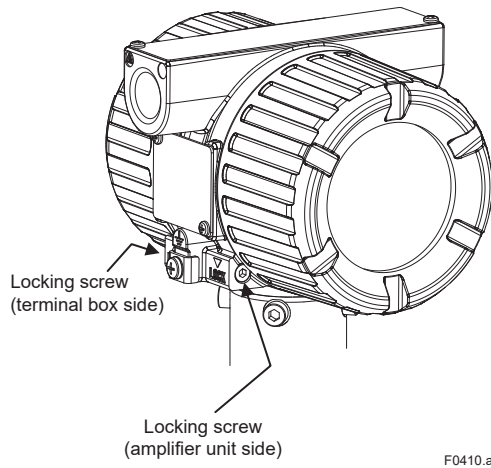

Figure 4.7 Locking Screw
- (1) Lay wiring as far as possible from electrical noise sources such as large capacity transformers, motors, and power supplies.
- (2) Remove the terminal cover and dustproof plug from electrical connections before wiring. When opening the cover of an explosion protected type turn the locking screw to the right while referring to Figure 4.7 to unlock it. Also, when the cover is closed after wiring, be sure to turn the locking screw to the left to lock it.